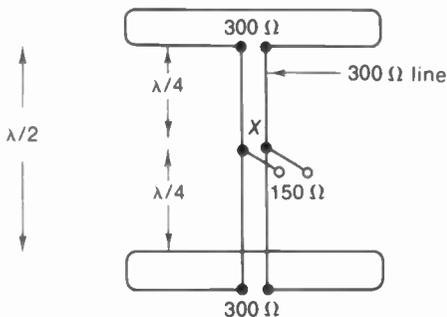

FIGURE 25-23 TWO ANTENNA BAYS STACKED VERTICALLY IN BROADSIDE ARRAY. REFLECTORS OMITTED FOR CLARITY.
antennas are called *bays* and the combined unit is a *stacked array*. Mounting the antennas one above the other, as illustrated in Fig. 25-23, is vertical stacking. This can be considered a *broadside array*, as the antenna receives or
**Vertical stacking.** This is often done in weak signal areas to increase gain and sharpen directivity in the vertical plane, which reduces pickup of external noise from sources usually below the antenna. Figure 25-23 illustrates vertical stacking and how the antenna bays are usually connected to the common transmission line. Folded dipoles are shown, without reflectors for simplicity, but the same principles apply for any other antenna. The half-wave spacing generally used between stacked antenna bays is convenient for interconnecting them with two quarter-wave sections. Because of the symmetry, the antenna signals from both bays travel the same distance to point X and are in phase at the common junction for the transmission line to the receiver. The impedance here is one-half the impedance of either section, as the two lines are in parallel. With more than two antennas in the